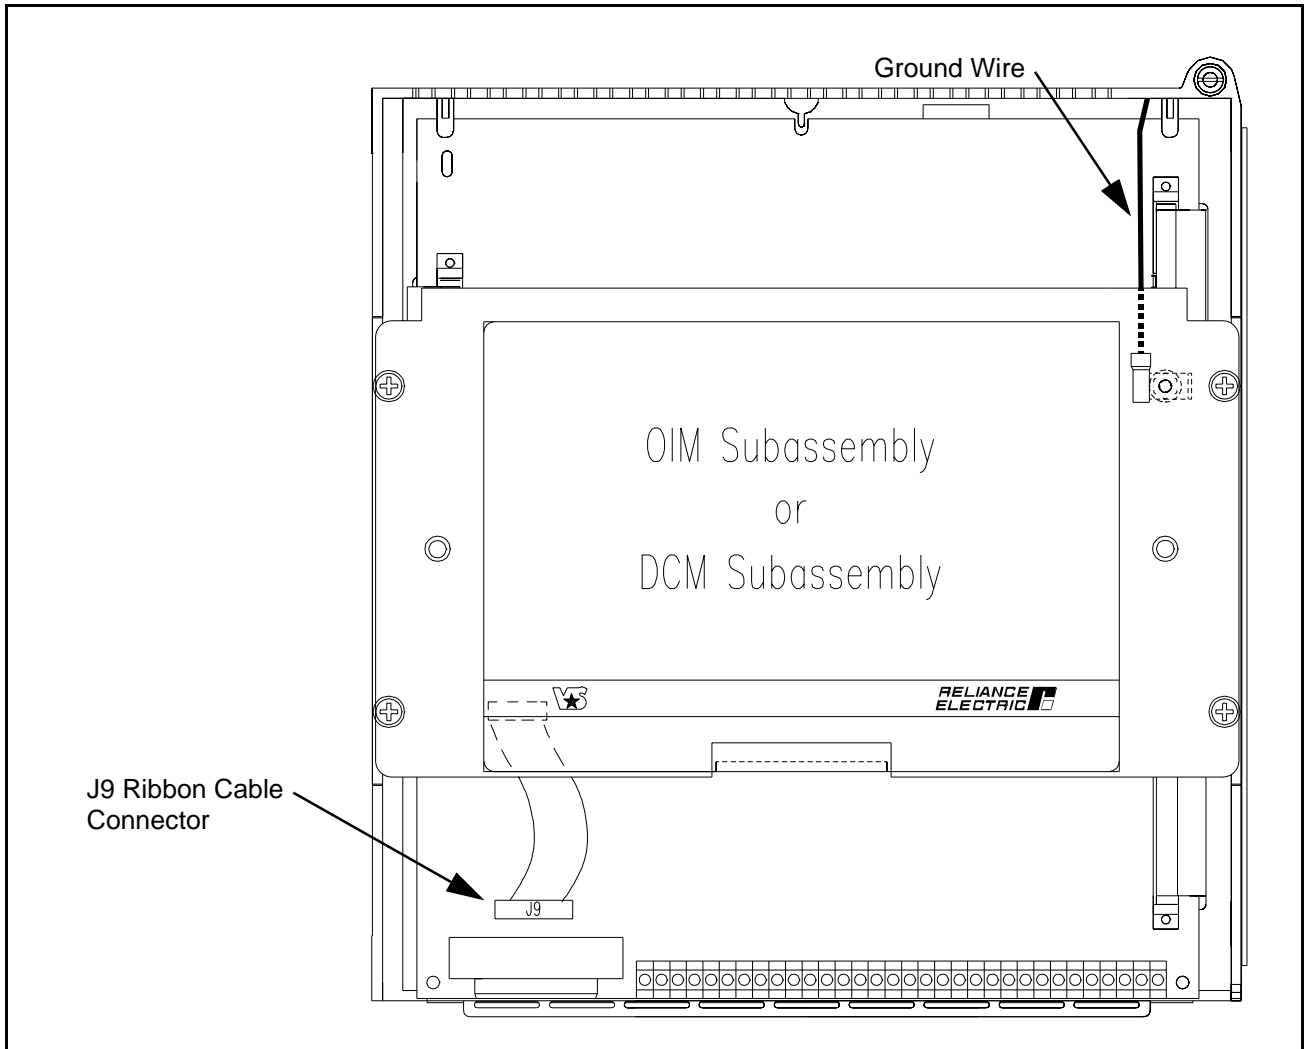
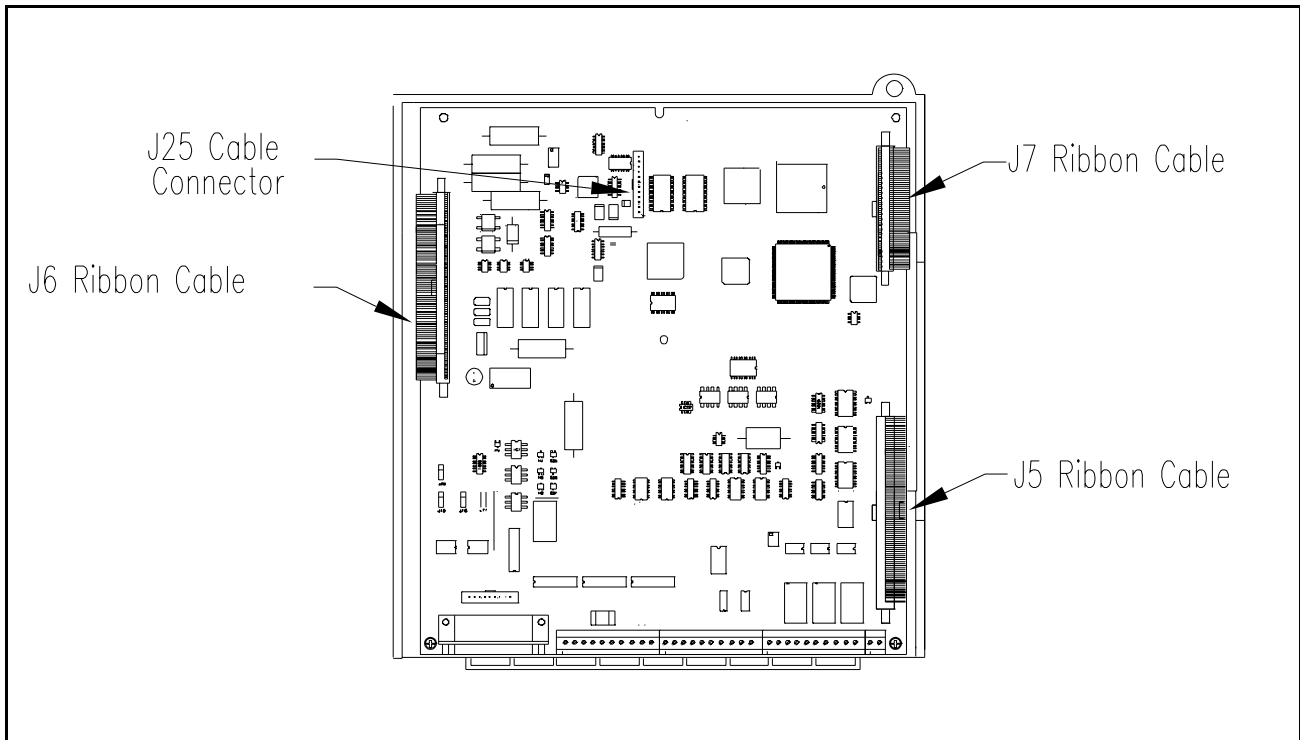

Figure 2 – Removing the J9 (OIM/DCM) Ribbon Cable and Terminal Strip Wiring
Figure 3 – Removing the Ribbon Cable Connectors
Step 3. Disconnect cable connector J9 from the lower left side of the Regulator board (refer to figure 2).
Step 4. Remove the four (4) screws which secure the OIM (or DCM) assembly to the card carrier. Disconnect the OIM/DCM ground wire. Set the OIM (or DCM) assembly aside.
Step 6. Disconnect ribbon cables J5, J6, and J7 from the Regulator board (refer to figure 3). If the drive uses a Field Current Regulator (M/N 911FK0041, 911FK0101, or 911FK0151), also remove cable J25.
Step 7. Remove the three (3) screws which secure the Regulator board to the card carrier. Two screws are located at the bottom corners of the board; one is located at the center of the board. If the drive is in an upright position, be careful not to let the Regulator board slip out of the card carrier when the last screw is removed.